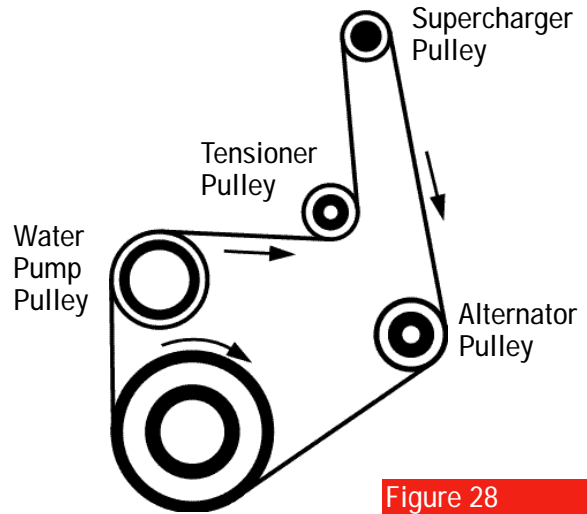

Figure 28
6. Place the drive belt over the water pump pulley, the crankshaft pulley and the alternator pulley (**figure 28**). Make sure the belt is on the correct sides of and properly seated in the grooves of each pulley.